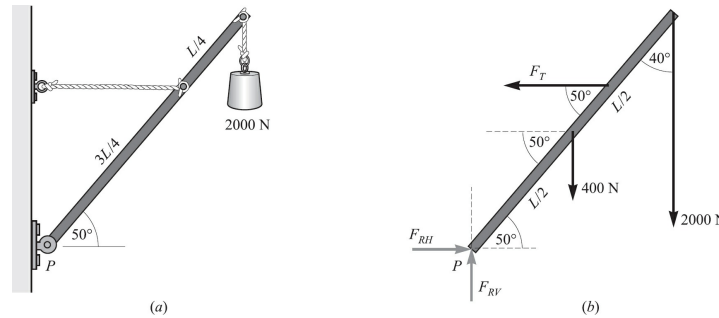

Fig. 5-9
5.8 [III] A uniform, 0.40-kN boom is supported as shown in Fig. 5-9\(a\). Find the tension in the tie rope and the force exerted on the boom by the pin at P .
The forces acting on the boom are shown in Fig. 5-9\(b\). Take the pin as the axis of rotation. The torque equation is then